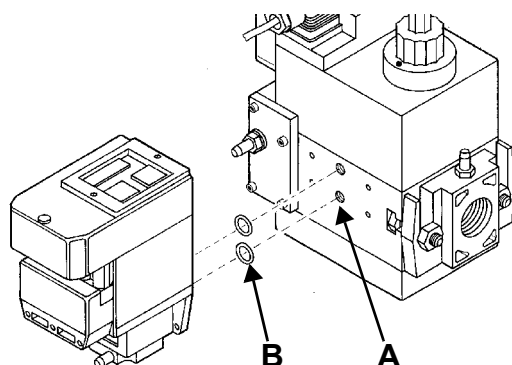
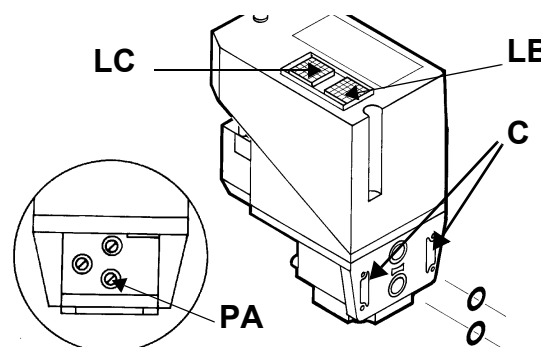

Fig. 22
Fig. 23
- 3 remove the Multibloc screw plugs (Fig. 22-A);
- 4 insert sealing rings (10,5 x 2,25) into VPS 504 (Fig. 22-B - Fig. 23)
- 5 Torque screws 3, 4, 5, 6 (M4 x16) Fig. 23-C
When wishing to monitor the test, install a pressure gauge ranged to that of the pressure supply point **PA** (Fig. 23). If the test cycle is satisfactory, after a few seconds the consent light **LC** (yellow) comes on. In the opposite case the lockout light **LB** (red) comes on. To restart it is necessary to reset the appliance by pressing the illuminated pushbutton **LB**.